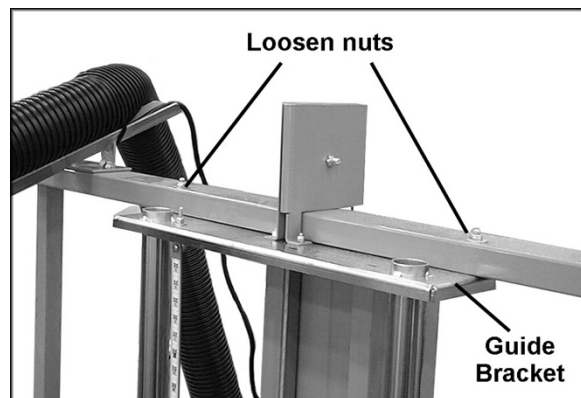

Figure 17
4. Loosen the guide bracket nuts, Figure 17, but do not remove the bracket. With a dead blow mallet, strike the bracket on the side in the direction you want the guides to go. **Do not strike the guides.**